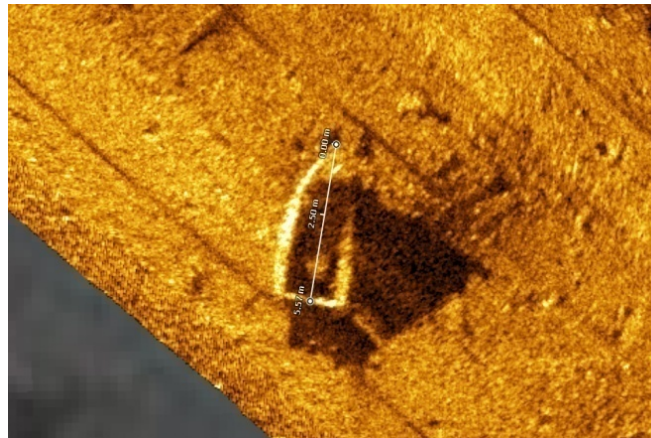

Figure 90. Measure Tool
2. Click two or more points in the mosaic window between which you want to measure distance (Figure 90).